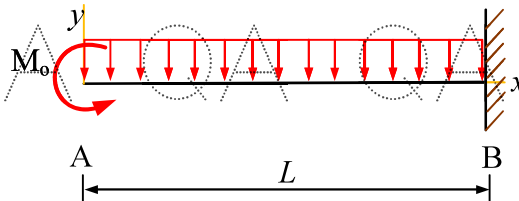

Fig.7
11. Use double-integration method for the beam shown in Fig. 7 to determine the following.